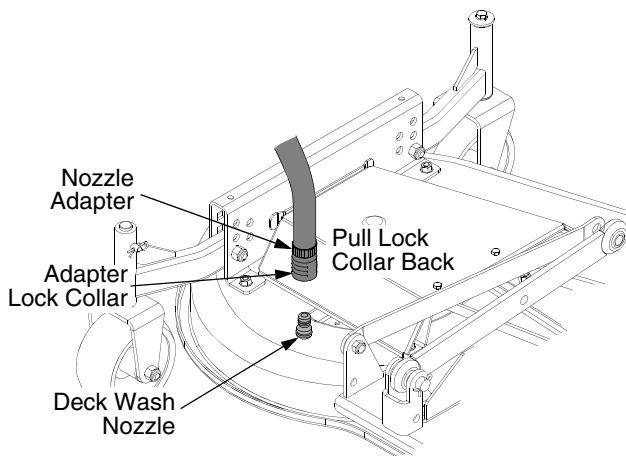

Figure 66
- Pull back the lock collar of the nozzle adapter and push the adapter onto the deck wash nozzle at the left end of the mower deck. Release the lock collar to lock the adapter on the nozzle. See Figure 66.